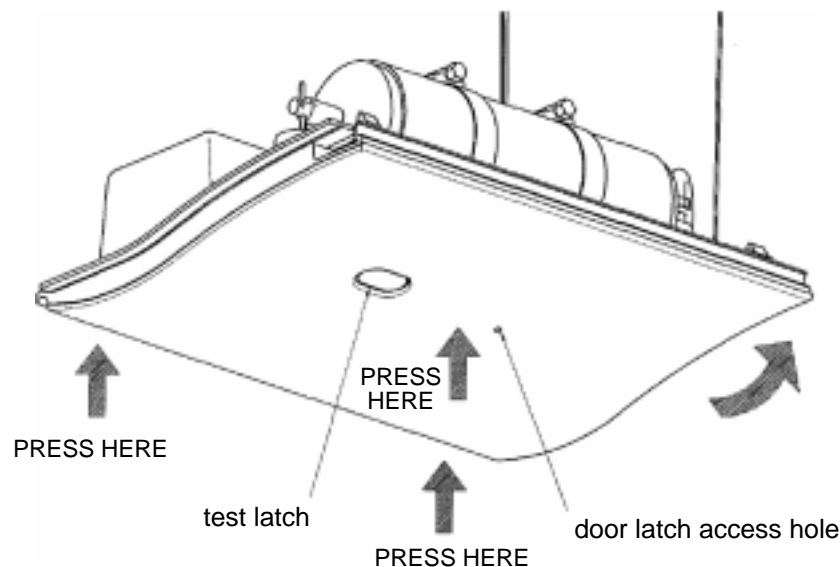

Figure 2 - Closing the Door on the Left Hand Passenger Mask Assembly
- Step 8. Press on the 2 hinge side corners of the door and then along the edge of the door to seat the hinges as shown in Figure 2.